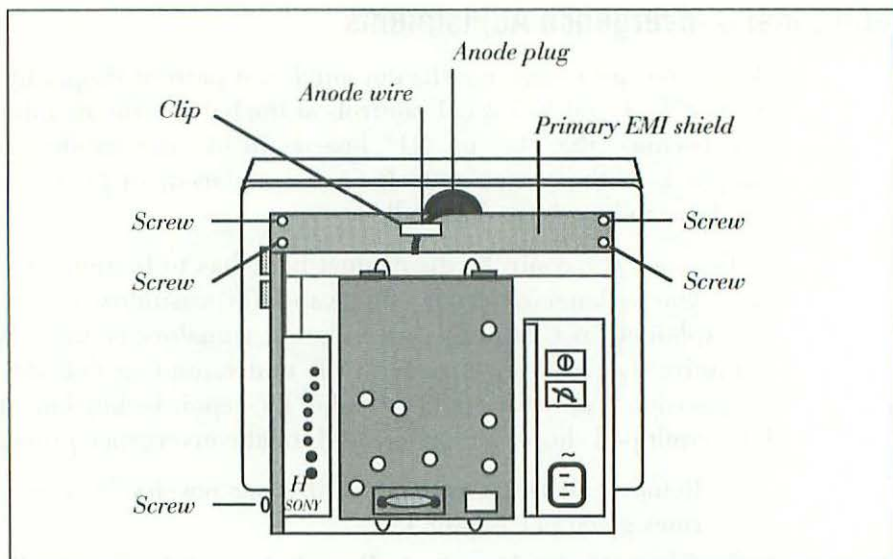

Figure 3-27 The monitor's primary EMI shield is held by five Phillips-head screws and loosely clipped to the anode (high voltage) wire.
6. As shown in Figure 3-27, the monitor's EMI shield is held by five Phillips-head screws and loosely clipped to the anode (high voltage) wire. One screw is located on the lower right side of the monitor, the remaining four are located on top. Remove the screws using a #1 Phillips-head screwdriver. Place the screws in the parts container. Do not remove the EMI shield just yet.
6. As shown in Figure 3-27, the monitor's primary EMI shield is held by five Phillips-head screws, and loosely clipped to the anode (high voltage) wire. One screw is located on the lower right side of the monitor, the remaining four are located on top. Remove the screws using a #1 Phillips-head screwdriver. Place the screws in the parts container. Do not remove the EMI shield just yet.